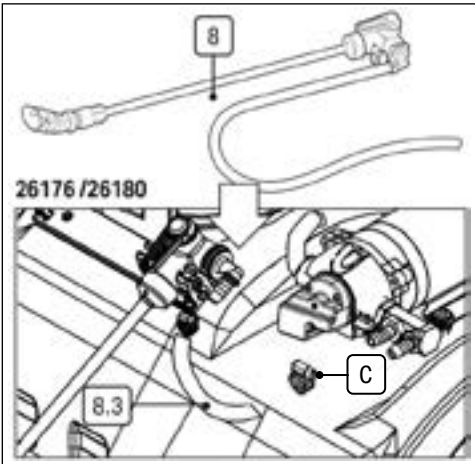

Fig. 10
6.5 Fitting Broadcast Lance Assembly to Tank (Fig.10) (26176 and 26180 only).